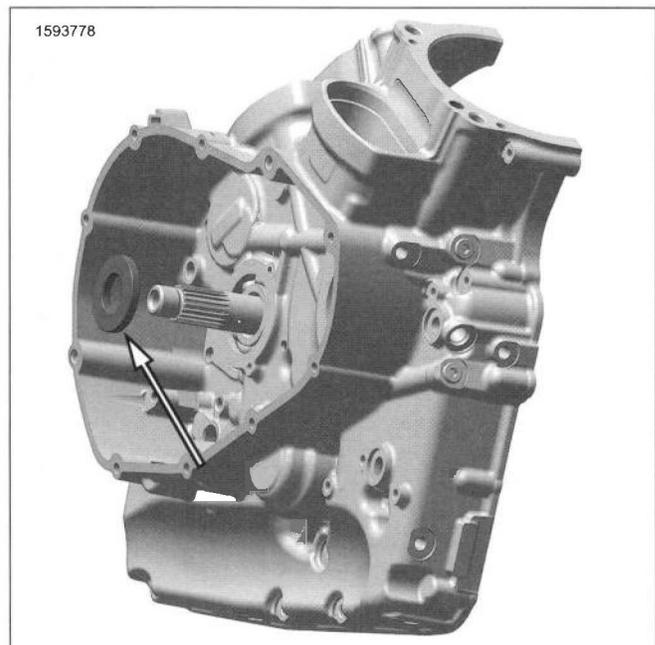

Figure 5-17. Install Washer
- See Figure 5-17. Install big washer on input shaft.